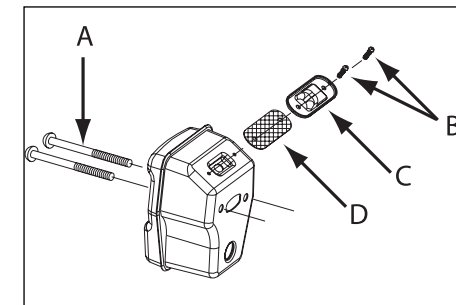

Fig. 17B
2. Remove the 2 screws that hold the cover (C). (Figure 17B)
3. Discard the used spark arrester screen (D) and replace it with a new one.